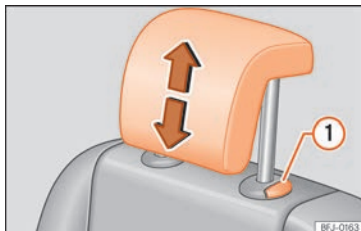

Fig. 114 Removal of the rear headrests: second row of seats.
- Remove the headrest completely while pressing button »» Fig. 114 ①.